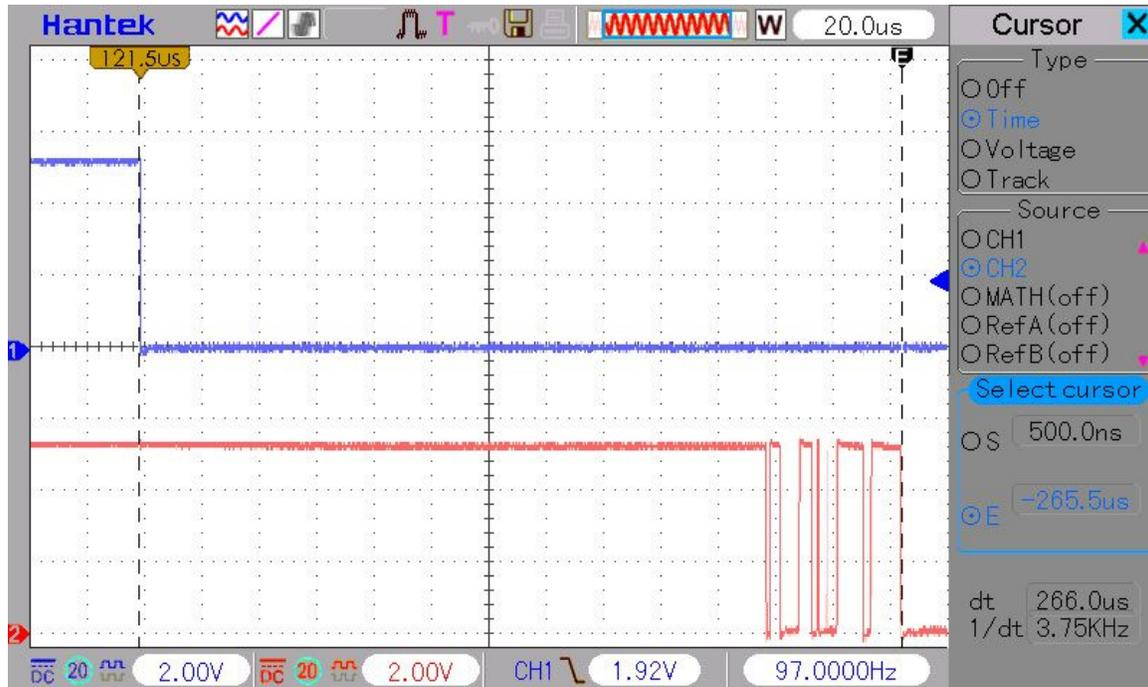

Figure 3. Relay Actuation Timing with D1 installed in circuit
Below is Figure 3, which is a plot of the waveform of the signals at T2 (upper) and T3 (lower) when the relay is actuated.
In Figure 3 the vertical graticule marks 20 us increments. The leftmost vertical cursor with 121 us at the top marks the time when trigger occurred, which was 121 us prior to the vertical centerline of the display. Additionally, it coincides with the collector of Q1 going to ground and current beginning to flow through the relay coil. The “dt” value shown in the lower right gray portion of the screen is the time between the first vertical cursor and the second (E) vertical cursor, 266 us (the time to first actuate the relay contacts plus the time needed for the contacts to settle).